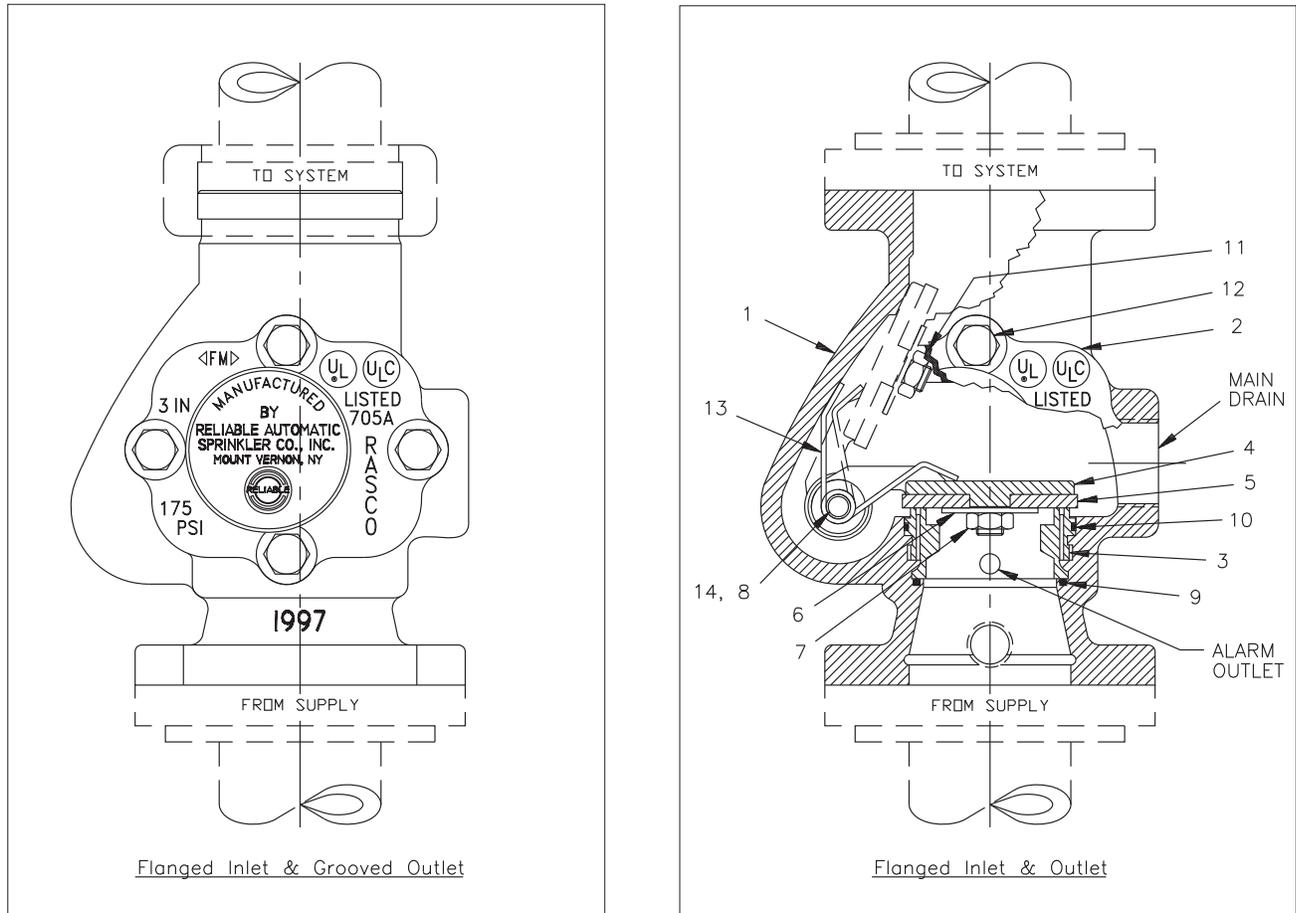
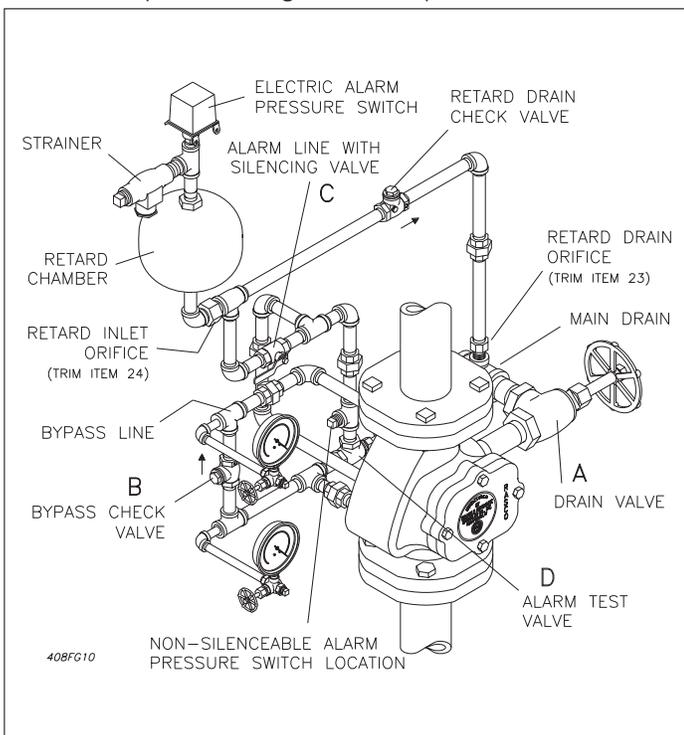

Figure 9
Figure 10
The normal position of alarm valve parts is as shown in Figure 9.
Flow of water in the system piping resulting from the discharge through one or more fused automatic sprinklers causes the Clapper (4) to rise off the grooved Seat (3) and permits water from the supply piping to enter the system. The movement of Clapper (4) on Hinge Pin (8) uncovers the groove in Seat (3) and allows water to flow through the groove into the alarm line (Figure 10) to the retard chamber.
When the water ceases to flow through the alarm valve, Clapper (4) (Figure 9) returns to its seat thus stopping the flow of water to the retard chamber. At the same time the restriction and drain offices allow the retard chamber and alarm line to drain through the drain outlet.
1. The bypass line (Figure 10) with Check Valve (B) allows surges to pass from the supply to the system side of the alarm valve clapper without lifting the clapper off its seat. Repeated surges build up an effective excess
To test the operation of the alarm equipment only, without unseating the alarm valve clapper, open Valve (D) Figure 10. Should the mechanical sprinkler alarm (water motor) not operate, most likely the Model B Strainer is clogged. To clean, remove the strainer cap and filter. Be sure to replace filter and tighten cap securely.
To test supply piping for unobstructed flow, close Valve (C) Figure 10 and open Drain Valve (A). When test is completed make sure to close Drain Valve (A) securely and open and seal Valve (C).
1. Open Drain Valve (A), Figure 10, which should flush any loose matter off alarm valve seat. Close valve and observe if water flow continues.
2. Open Valve (D), Figure 10, which should flush any loose matter off its seat. Close valve and observe if water flow continues.
3. Open Union (11), Figures 3 thru 8, and observe if water flows from the alarm valve alarm outlet or through Valve (D), Figure 10. If through Valve (D), close main control valve, then open and inspect Valve (D). Repair as necessary and reinstall. Close Union (11) Figures 3 thru 8, then open main supply valve.
Note: Supply pressure gage should read zero when main control valve is closed tight and water pressure between this valve and the alarm valve is relieved. If necessary to relieve water pressure, open Valve (D), Figure 10. When water stops running at drip cup, close Valve (D).
- 2) Clapper Rubber Facing: Item 5, Figure 9.
- 3) Seat "O" Rings: Items 9 and 10, Figure 9.
- c. In either case, drain system by opening Drain Valve (A) Figure 10. Remove Cover (2) Figure 9 Shaft Pipe Plug (14), Hinge Pin (8) and Clapper Assembly (4).
- 2) Remove "O" rings, Items 9 and 10, Figure 9. Thoroughly clean "O" ring grooves and sealing surfaces. Inspect for damage or foreign material.
- 3) Replace Cover (2) being sure Cover Gasket (11) is in position and bolts and nuts are securely tightened.
- 4) Close Drain Valve (A) Figure 10. Slowly open and seal main control valve. Be sure Valve (C) is sealed in open position.
False alarms are generally caused by pressure surges in the water supply and can occur if the system loses its effective excess pressure. A visual indication of this condition is given by similar readings on the system and supply pressure gauges. One or more of the following will contribute to this loss of pressure—leaking system drain valves, leaking at the alarm valve Seat (3), Figure 9, leaking between the Clapper (4) and the Facing (5) or leaking at the bypass Check Valve (B), Figure 10. Corrective Steps:
- a. Close the main control valve and open Valve (D) Figure 10 to relieve pressure between main control valve and clapper of alarm valve. Open Union (11) near the alarm port, Figures 3 thru 6. A steady leak at the union indicates the bypass Check Valve (B) Figure 10 has foreign matter under the seat or the clapper rubber facing needs replacing.
- b. If bypass Check Valve (B) is leaking, repair after opening Drain Valve (A) and draining system.
- c. Connect union, close Valves (A) and (D) and then slowly open and seal main control valve.